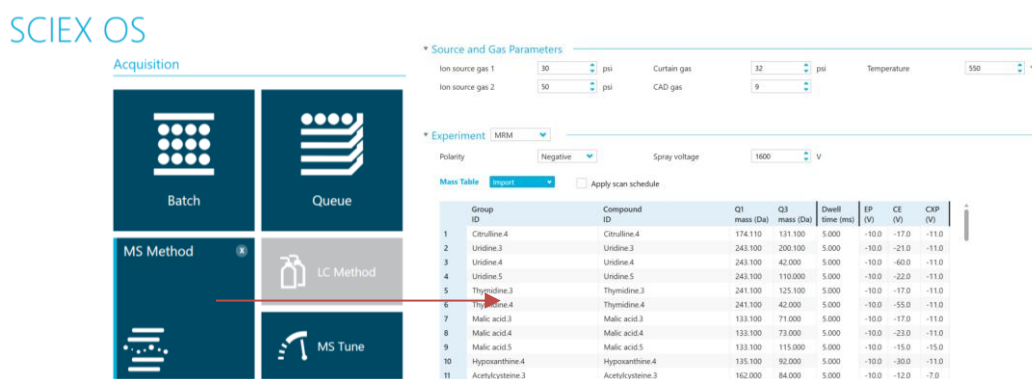

Figure 5-1: Building an acquisition method in SCIEX OS software.
3. On the *Acquisition* panel of software home screen (**Figure 5-1**), click *MS Method*. From the drop-down menu for scan type, select *MRM*.
1. To create an LC method in SCIEX OS software, again go to the *Acquisition* panel of software home screen (**Figure 5-1**), and now click *LC Method*. From the drop-down menu for scan type, select *MRM*.